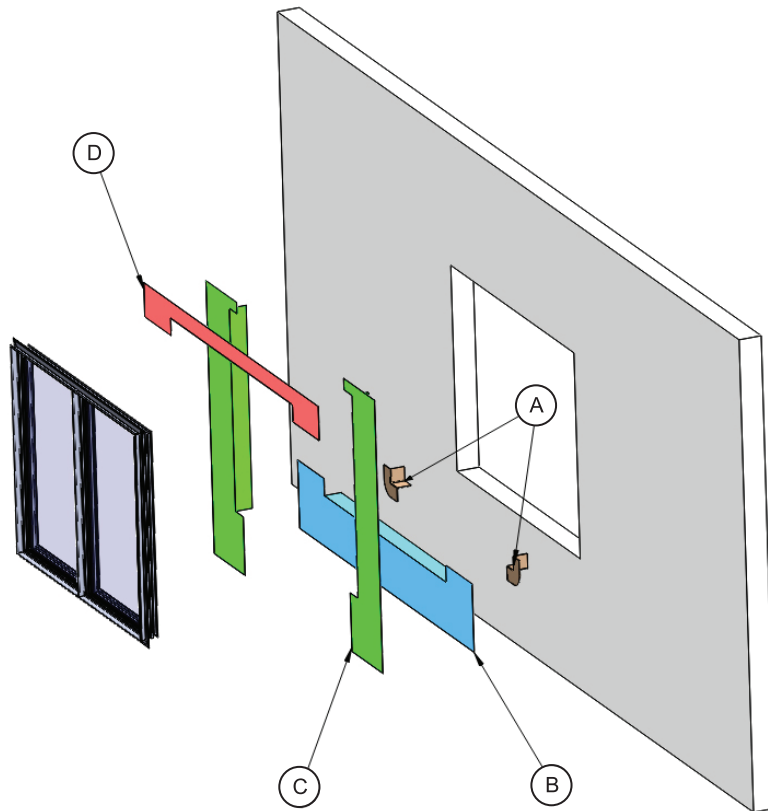

FIGURE 1
2. Prepare rough opening as shown in Figure 1 and using steps A through D.